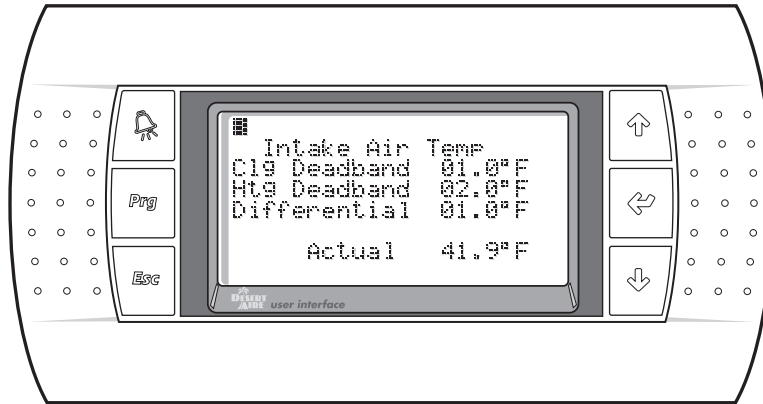

Figure 43
2.6.1.2 Intake Air Temperature Setpoints (Figure 43)